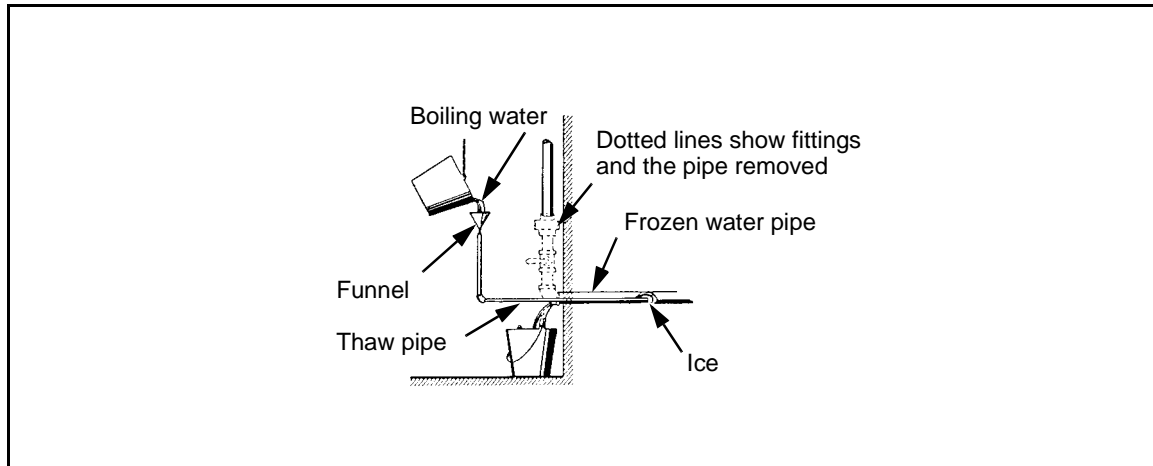

Figure 3-1. Thawing A Frozen Pipe
Step 2. Place a small thaw pipe or tube into the frozen pipe as shown in *Figure 3-1, page 3-4*.